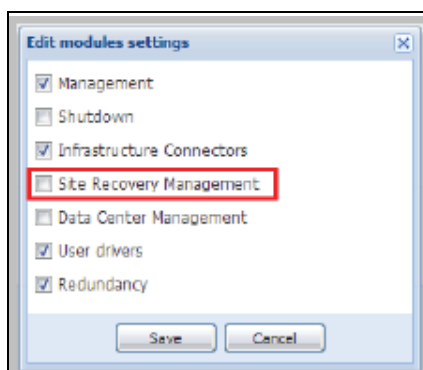

Figure 254. Edit Modules Settings
3. From the Edit modules settings pop-up, check the box for Site Recovery Management and click **Save** (see Figure 254).